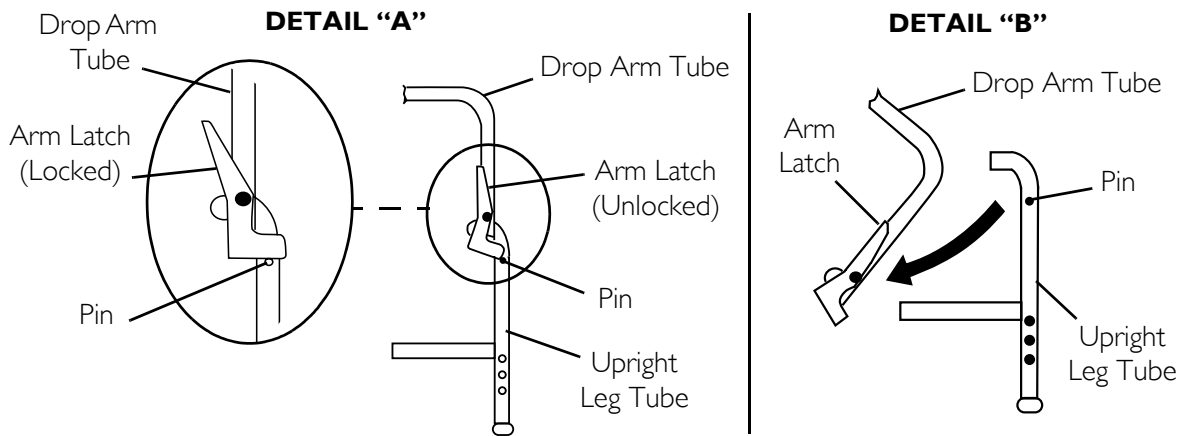

FIGURE 3 Operating the Drop Arms
NOTE: For this procedure, refer to FIGURE 3 on page 3.
1. Grasp one arm latch handle firmly. Refer to Detail "A" of FIGURE 3.
2. Squeeze the arm latch handle toward the drop arm tube shown in FIGURE 3.
3. Gently lower the drop arm tube shown in Detail "B" of FIGURE 3.